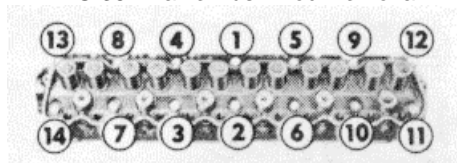

FIG 36. Cylinder Head Guide Studs
1. Clean the head and block gasket surfaces (refer to Page 1-07 for cleaning and inspection procedures). If the cylinder head was removed for a gasket change, check the flatness of the cylinder head and block. Install guide studs at each end of the cylinder block (Figure 36).